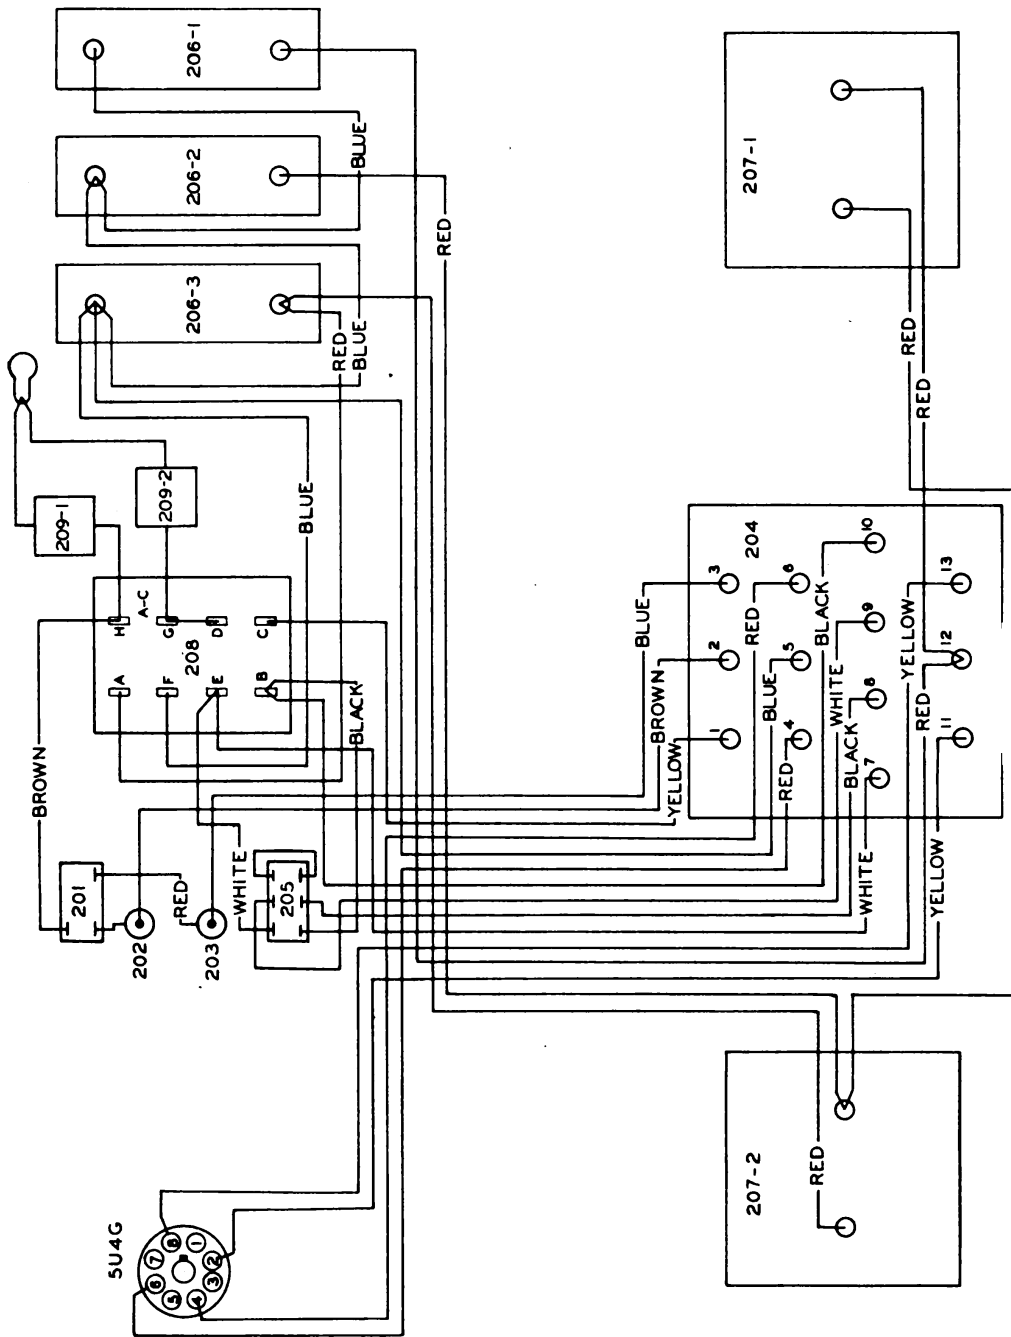

Figure 11. Power Supply Unit RA-61-A, practical wiring diagram
(2) Solder the wires to the new choke. Set the choke in position and put in the spacers and screws. Put the lockwashers on with a pair of long nose pliers and hold the nuts with the pliers while you tighten the screw with a screwdriver. Turn the front section back and place it in position. Put in the spacers and screws and fasten the FRONT PANEL to the rear section of the unit. Put in the tubes, put the case on and the job is done.
c. Transformer.—The procedure for the removal and re-assembly of the transformer is identical with that for the choke coils except that all six screws, three on either side, have to be removed. To avoid mistakes, take the wires one at a time off of the old transformer and put them on the new one. See figure 11.